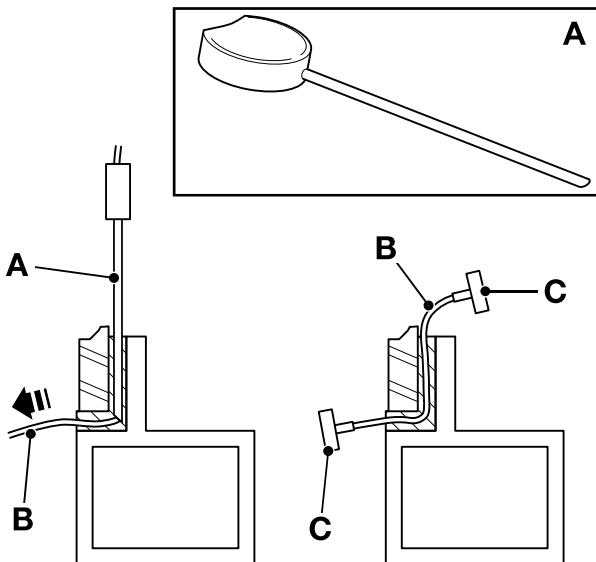

Fig 6. Braided Cutting Wire and Handles
- b Braided Cutting Wire and Handles. ⇒ Fig 6. \(□ 1-8\). This method uses a 3-core wire, a wire starter tube and two handles.